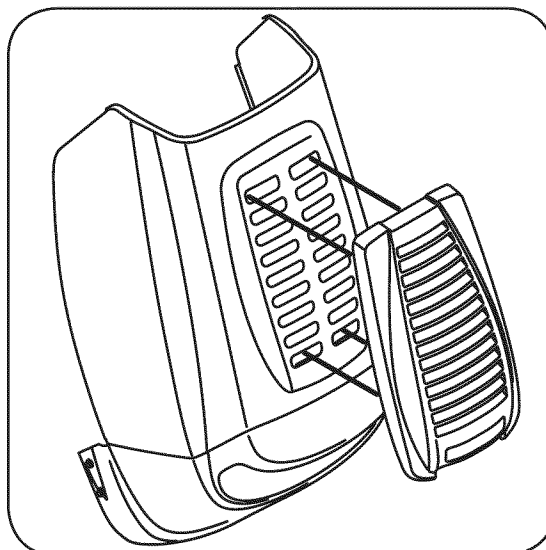

Figure 3-4
3. Line up the four holes in the hood scoop with the four holes visible through the tractor’s hood louvres. See Figure 3-4.